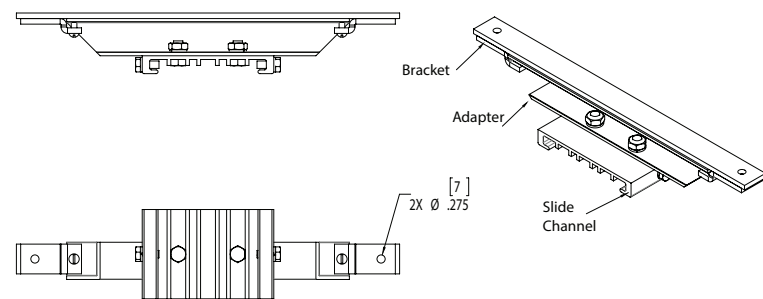

Figure 7. MP1054MTK Kit MagnaPro Mount Kit Details
5. Install one (1) channel adapter with slide channel onto each MP1054MTK bracket. Slide the long edge of the channel adapter into the slots on the bracket and tighten the two (2) Phillips head screws on the ends of each MP1054MTK Kit bracket. Make sure the slide brackets are parallel to each other (see Figure 7).
6. Fixture is now ready for mounting. It is strongly suggested to use two (2) qualified tradespeople to proceed with the final mounting of the fixture. This is recommended to avoid any personal injury or damage to the fixture.
8. Tighten the two (2) 1/4" set screws on each slide bracket until they bottom (see Figure 7). Torque to 78 in.-lbs. (8.8 N-m).